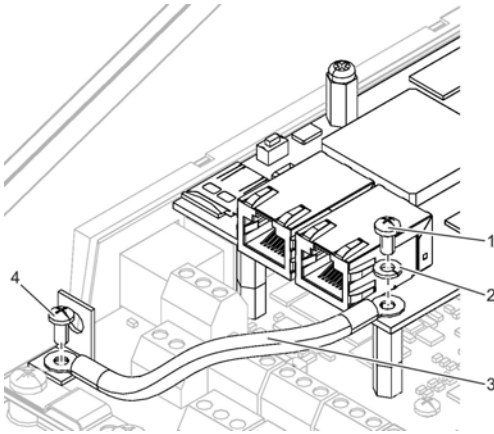

Fig. 10: Fixing the ground strap
- 6. ▶ Fix the ground strap (Fig. 10/3) with the fixing screw (Fig. 10/1) and the washer (Fig. 10/2) to EM-IP.
- 7. ▶ Fix the other end of the ground strap (Fig. 10/3) with a fixing screw (Fig. 10/4) to the earth connection on the main PCB.